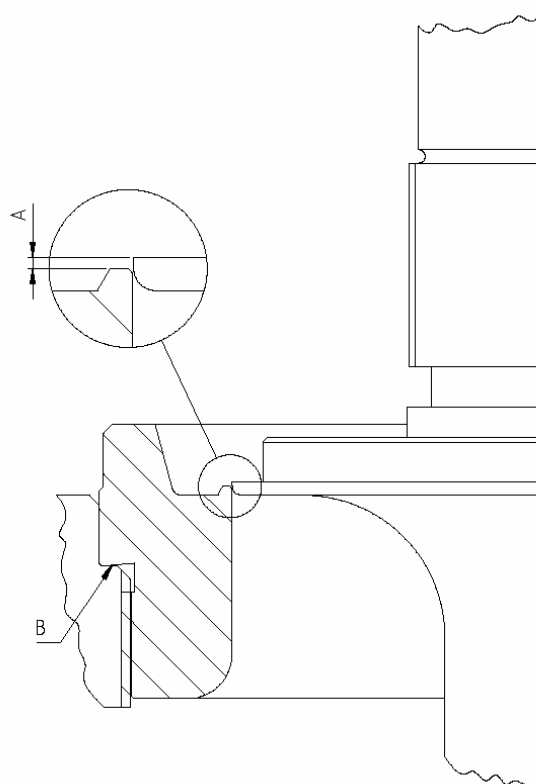

Fig.10
- unscrew the locknut (40) and the plug adjusting ring nut (38), then if necessary replace plug gasket (37a); unscrew the inferior ring nut (39) and if necessary replace plug gasket (37b).
- after replacing of plug gaskets only (37a-b), restore seal on both seats operating on the plug adjusting ring nut (38), screwing if the leak is on the upper seat, unscrewing if the leak is on the lower seat and then block the ring nut (38) with the Nut (40).
- In case the whole plug has to be replaced, it is necessary to restore the correct distance between the plug's upper and lower surfaces, keeping as a reference the real distance between the seats. To do so: assemble the inferior seat (5) to the body; insert the gasket (37b) to the lower nut (39) and screw it on the plug (6); insert the plug in the valve body and lay the gasket of lower nut to the lower seat; assemble the upper seat (8); with reference to fig.10, check that the dimension A is 0.2/0.3 mm: if it is greater, then the surface B on the lower seat has to be turned; if it is inferior, the surface B on upper seat has to be turned.